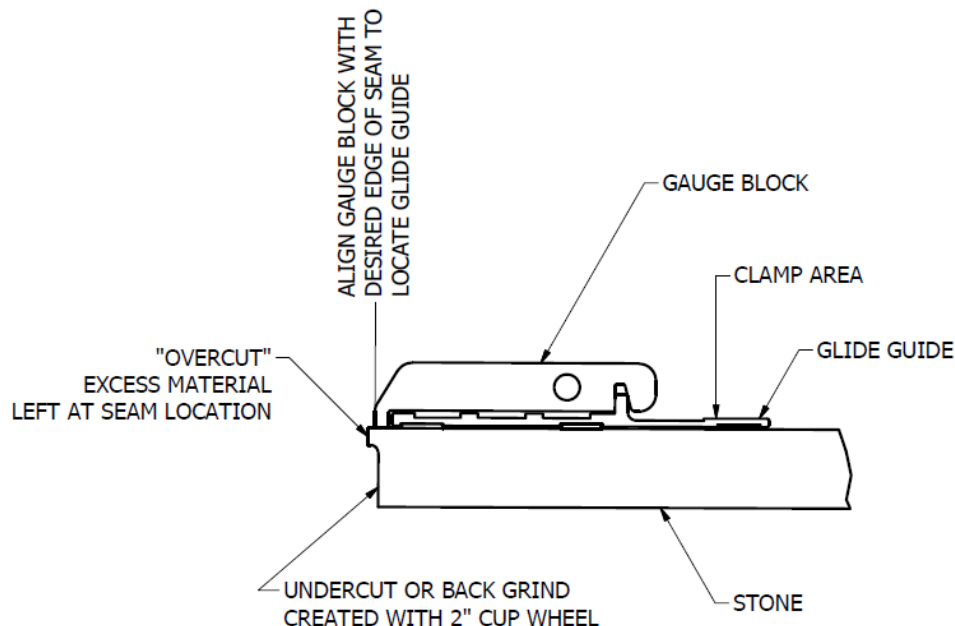

FIGURE 4 – Gauge Block Use
- b) Use two gauge blocks to line up the Glide Guide straight edge parallel to the seam. See Figure 4 below.